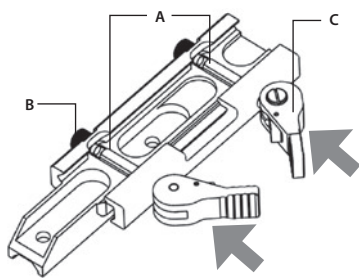

FIGURE 3-4. MOUNT. UNDERSIDE VIEW
2. Install the Drone PRO on the Picatinny/ Weaver rail so that the stops (A, see Figure 3-4) slide into the transverse slots on the rail.
2. With the clamping device unlocked (as shown in Figure 3-4), push the cam (C) towards the arrow, which will cause the nut (B) to slide out of its hole.
3. To tighten/ loosen the clamping device, push down on the cam (C) and turn the nut (B) CW/ CCW respectively, in one-two increments (see note below). Much like when the cam (C) is released, backward-moving springs will cause the nut (B) to slide back into its hole.